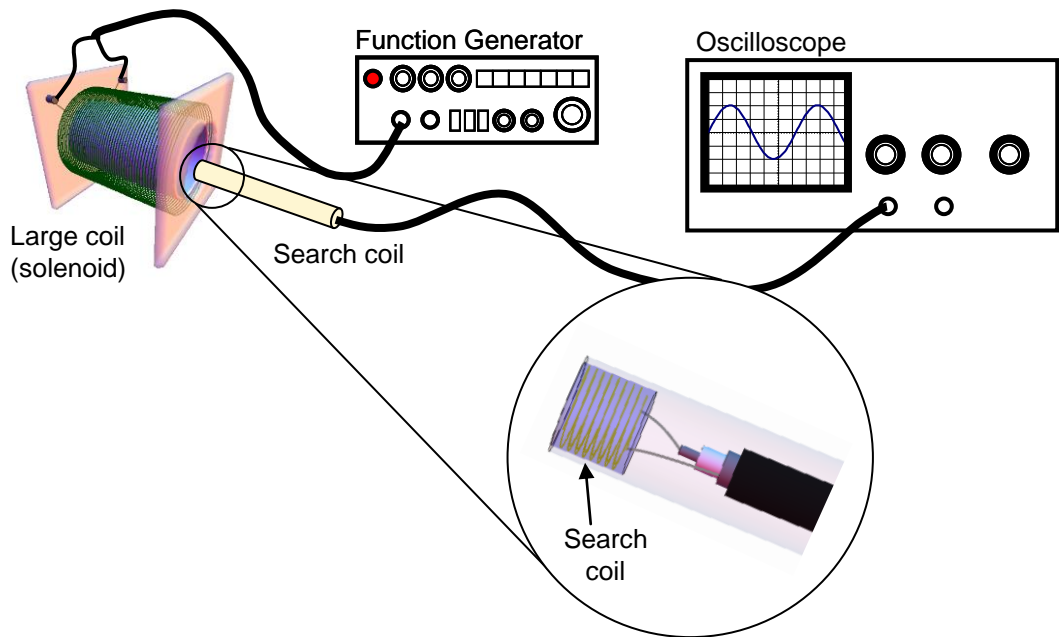

Figure 3: Connections for field measurements
- To probe the space around the solenoid we must augment our ineffective senses with an external sensor. Connect the search coil to Channel 1 of the oscilloscope as shown in *Figure 3*.